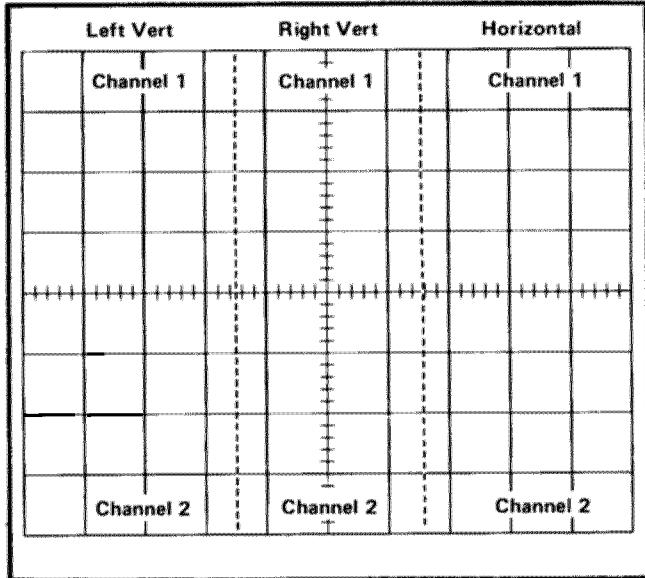

Fig. 3-24. Location of readout words on the CRT identifying the originating plug-in unit and channel (one complete frame shown, simulated readout).
**Frame**—A frame is a display of all words for a given operating mode and plug-in combination. Up to six words can be displayed in one frame. Fig. 3-24 shows one complete frame (simulated readout) and the position at which each of the six words is displayed.
**Display Format.** Up to six words of readout information can be displayed on the 7613 CRT. The position of each word is fixed and is directly related to the plug-in unit from which it originated. Fig. 3-24 shows the area of the graticule where the readout from each plug-in unit is displayed. Notice that channel 1 of each plug-in unit is displayed within the top division of the CRT and channel 2 is displayed directly below within the bottom division. Fig. 3-26 shows a typical display.
The Character Generator stage produces the characters which are displayed on the CRT. Any of the 50 characters shown on the Character Selection Matrix of Fig. 3-24 can be addressed by proper selection of the column and row current. Only one character is addressable in any one time-slot; a space can be added into the displayed word by the Decimal Point Logic and Character Position Counter stage when encoded by the plug-in. The latter stage counts how many characters have been generated and produces an output current to step the display one character position to the right for each character. In addition, the character position is advanced once during each of time-slots 1, 2, and 3 whether a character is generated during these time-slots or not. This action fixes the starting point of the standard-format display such that the first digit of the scaling factor always starts at the same point within each word regardless of the information encoded in time-slot 2 (normal/invert) or time-slot 3 (cal/uncal) which precedes this digit. Also, by encoding row 10 and column 0 during any time-slot, a blank space can be added to the display. Decimal points can be added to the display at any time by addressing row 7 and columns 3 through 7 (see Character Selection Matrix for location of these decimal points). The Decimal Point Logic and Character Position Counter stage is reset after each word by the Word Trigger pulse.
The Format Generator stage provides the output signals to the vertical and horizontal deflection systems of the instrument to produce the character display. The binary Channel Address No. 2 code from the Channel Counter stage is connected to this stage so that the display from each channel is positioned to the area of the CRT which is associated with the plug-in and channel originating the word (see Fig. 3-24). The positioning current or decimal point location current generated by the Decimal Point Logic and Character Position Counter stage is added to the horizontal (X) signal at the input to the Format Generator stage to provide horizontal positioning of the characters within each word. The X- and Y-output signals are connected to the Horizontal Amplifier and Vertical Amplifier through the Horizontal Output and Vertical Output stages respectively.